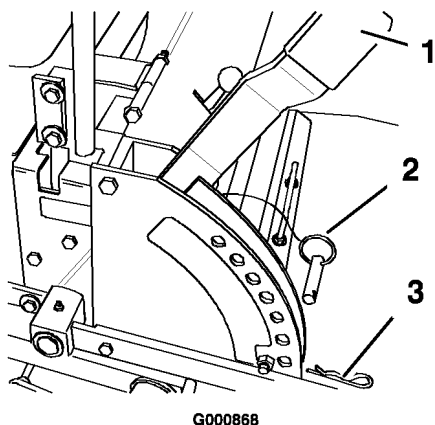

Figure 13
1. Raise the height-of-cut lever to the transport position (also the 4-1/2 inch (114 mm) cutting height position) (Figure 13).
2. To adjust, remove the hairpin cotter and clevis pin from the height-of-cut bracket (Figure 13).
3. Select the hole in the height-of-cut bracket corresponding to the height-of-cut desired, and insert the clevis pin (Figure 13).
- Secure the clevis pin with the hairpin cotter (Figure 13).